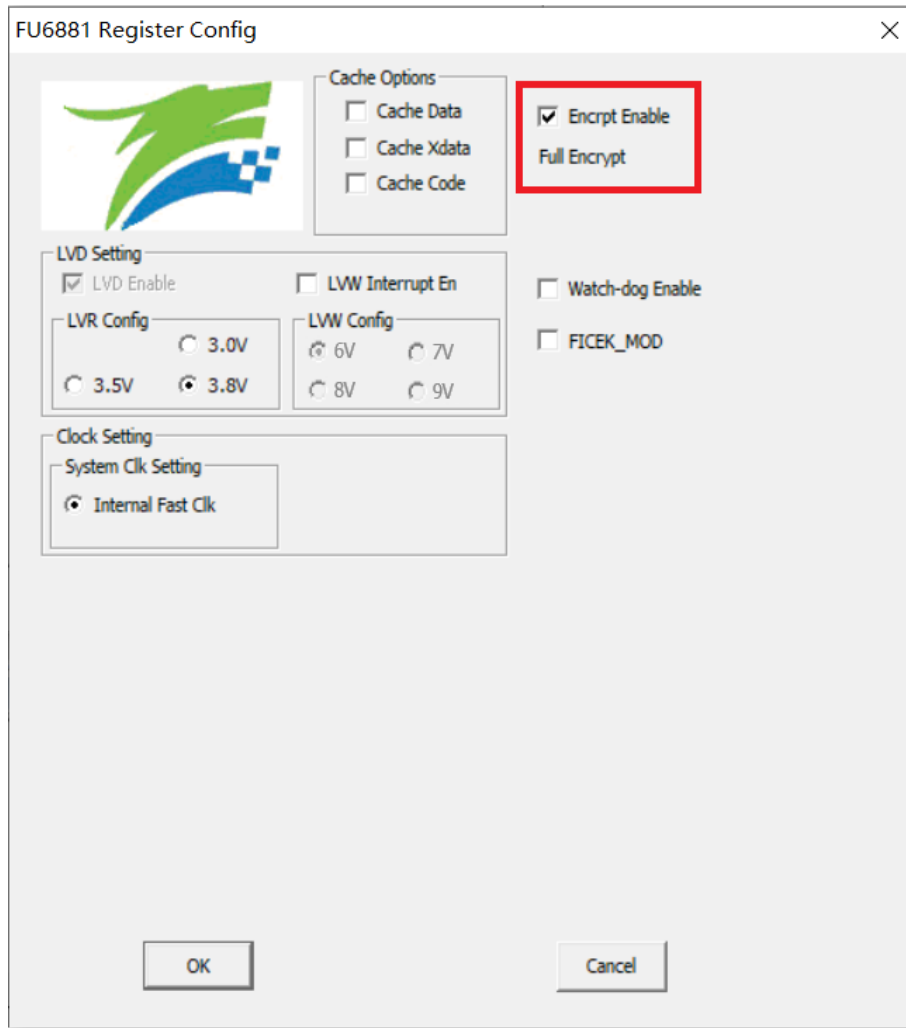

Figure 36-2 Full Code Protection Mode
2. Select the options as shown in Figure 36-2, and click OK. Then compile the project and download it. Get the BIN file and program it to Flash.
<ol style="list-style-type: none"> <li>3. Added “ADCLK2” to sampling time of ADC module;</li> <li>4. Added section 5.10 LIN Electrical Characteristics and updated descriptions in section 12.1 LIN Introduction;</li> <li>5. Corrected “TIM1_KFMAX” as “TIM1_KRMAX”;</li> <li>6. Modified the type “W” of bit [7] T1UPD in section 16.3.6 TIM1_IER (0x406D) as “W1”;</li> <li>7. Deleted the register T2OPM in Figure 17-1 Output Mode Block Diagram and Figure 17-5 Schematic Diagram of Input Capture Mode</li> <li>8. Standardized the writing of the registers TIM1_KR and TIM1_KF (section 16 Timer1), TIM2__DR, TIM2__CNTR and TIM2__ARR (section 17 Timer2);</li> <li>9. Updated descriptions on the bit [1] in section 23.3.5 P1_PU (0x4054);</li> <li>10. Modified “0.1μF ~ 1μF capacitor” on the bit [VREFEN] in section 27.2.1 VREF_CR(0x404F) as “1μF~4.7μF capacitor”;</li> <li>11. Updated Figure 31-2 Configurations of LV Reset Threshold, LV Interrupt and LV Warning Threshold and Figure 36-2 Full Code Protection Mode</li> <li>12. Standardized the document format and modified some descriptions.</li> </ol>